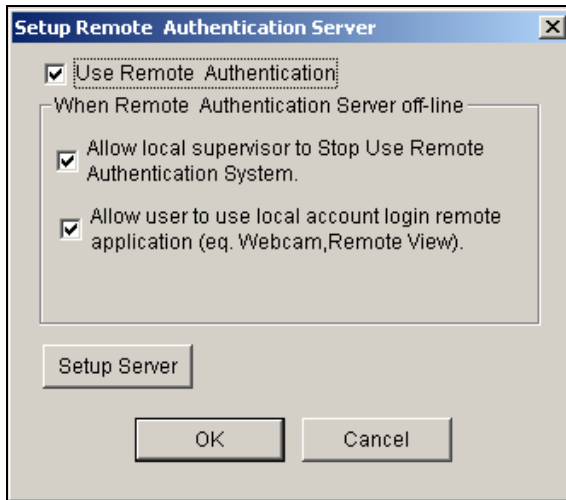

Figure 11-28 Setup Remote Authenticator Server
2. Click the **Setup Server** button in Figure 11-28. This dialog box appears.